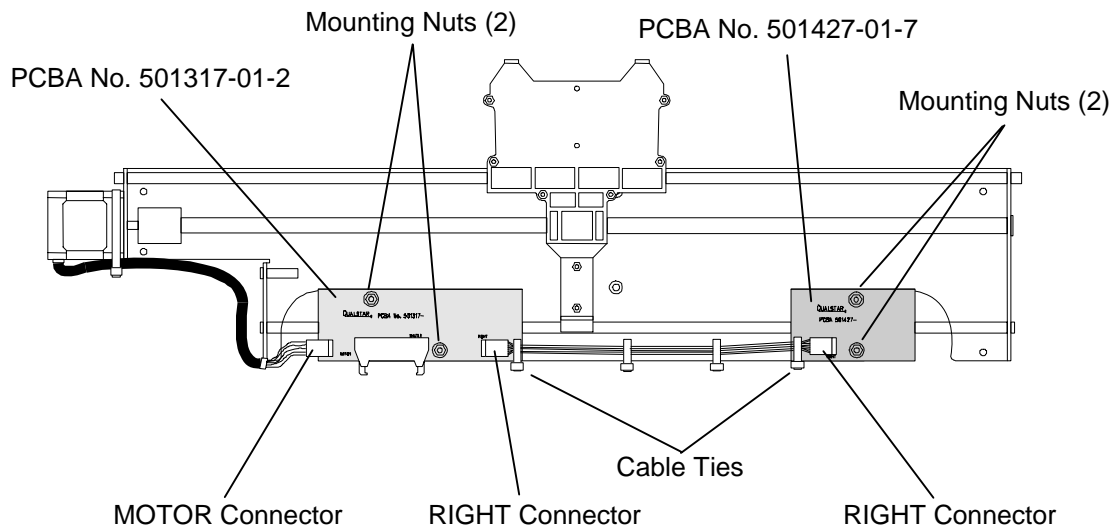

Figure 7-51 Shuttle PCBAs (Shuttle Assembly Bottom View)
2. To remove PCBA No. 501317-01-2, carefully cut the cable tie which attaches the RIGHT connector wires to the PCBA then disconnect the RIGHT connector. Disconnect the MOTOR connector. Using a 1/4-inch nutdriver, remove the two mounting nuts which secure the PCBA to the Shuttle Assembly and lift the PCBA off of the mounting studs (Figure 7-51).
4. To remove PCBA No. 501427-01-7, carefully cut the cable tie which attaches the RIGHT connector wires to the PCBA then disconnect the RIGHT connector. Using a 1/4-inch nutdriver, remove the two mounting nuts which secure the PCBA to the Shuttle Assembly and lift the PCBA off of the mounting studs (Figure 7-51).
2. Align the PCBA with the two mounting studs, then install the PCBA onto the studs. Reinstall the two mounting nuts onto the mounting studs, then use a 1/4-inch nutdriver to tighten the mounting nuts firmly against the PCBA. Reconnect the MOTOR connector. Reconnect the RIGHT connector and replace the cable tie that was removed earlier (Figure 7-51).
4. Align the PCBA with the two mounting studs, then install the PCBA onto the studs. Reinstall the two mounting nuts onto the mounting studs, then use a 1/4-inch nutdriver to tighten the mounting nuts firmly against the PCBA. Reconnect the RIGHT connector and replace the cable tie that was removed earlier (Figure 7-51).